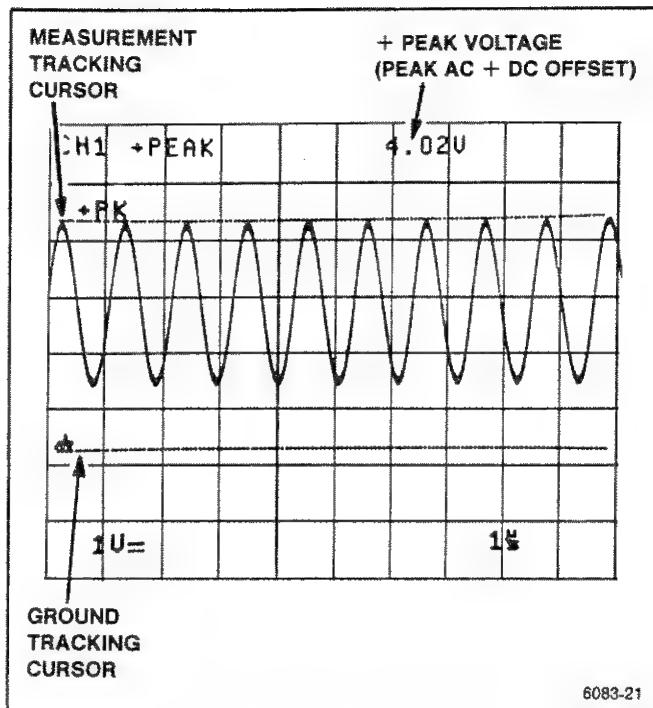

Figure 6-7. +PEAK voltage measurement and tracking cursors.
7. See Figure 6-7. The test signal used for the example has a dc offset (as shown by the position of the TRACK m cursor), and +PEAK value (peak ac + dc) as indicated by the voltage readout.